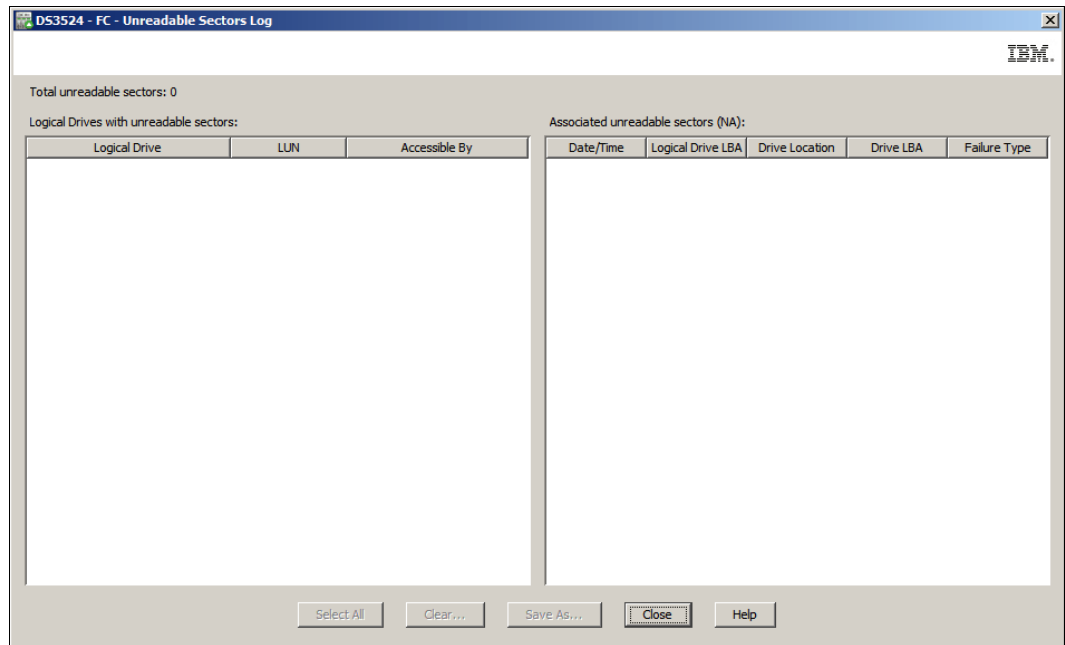

Figure 14-155 Unreadable Sectors Log
1. Click **Advanced** → **Recovery** → **Unreadable Sectors** to view the Unreadable Sectors Log as shown in Figure 14-155.